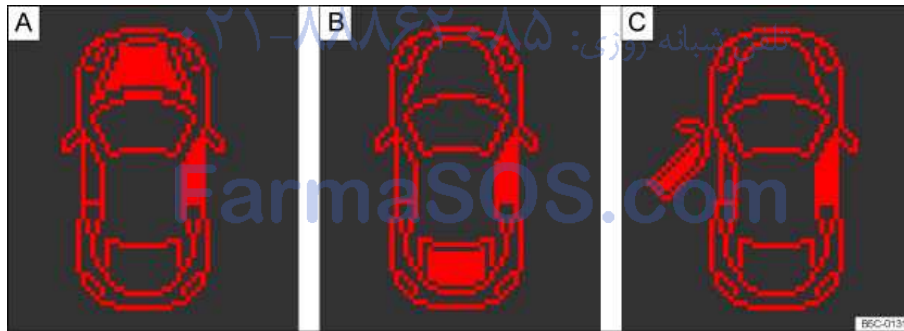

Fig. 13 In the instrument cluster display (examples): A: Open engine hood, B: Open rear hatch, C: Open driver door.
- Open door, engine hood, or rear hatch ⇒ fig. 13